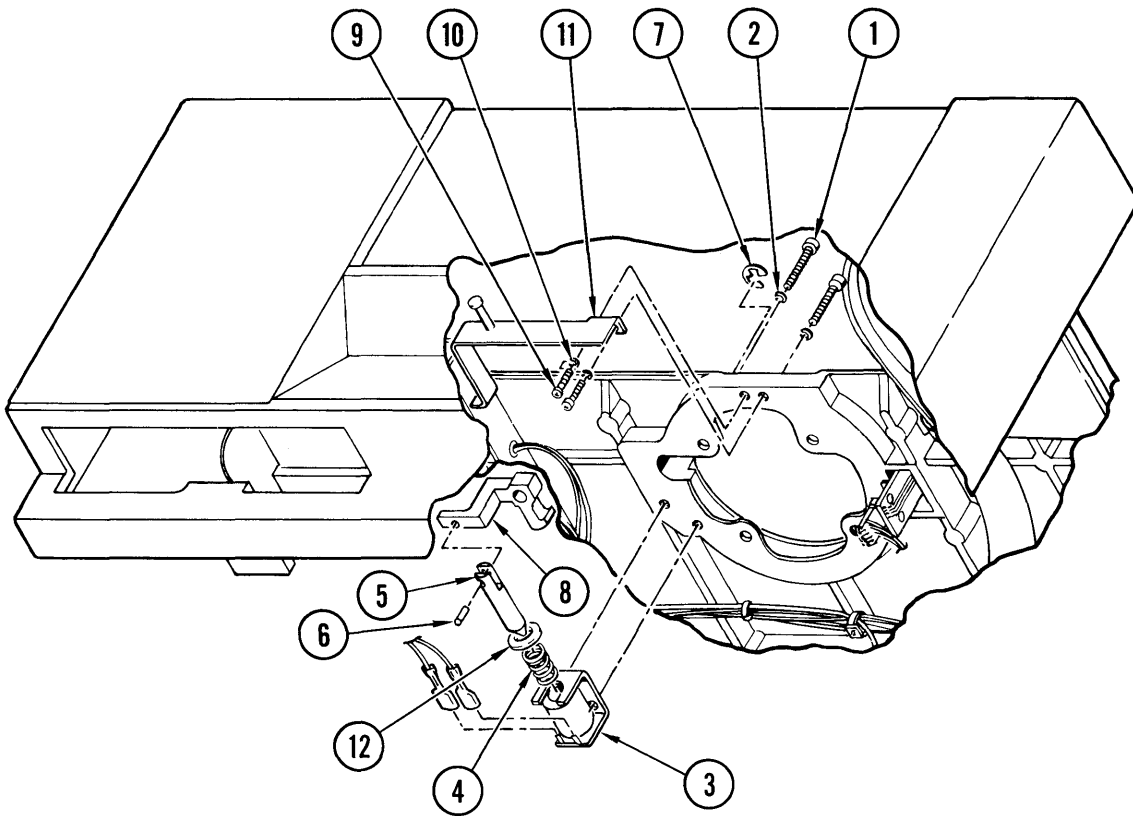

Figure 4-29. Hub Lock Assembly
4-45. Disassembly, Removal and Replacement (Figure 4-29). To disassemble hub lock assembly and remove parts from top plate and supply motor, proceed as follows:
- c. Remove wire terminals from solenoid (3, Figure 4-29) and identify for reassembly.
- d. Remove two screws (1), and lockwashers (2), and remove solenoid (3) from top plate and spring (4) and washer (16) from solenoid plunger (5).
- e. If plunger (5) or bellcrank (8) must be replaced, remove supply motor in accordance with instructions in paragraph 4-44. Remove retaining ring (7) and bellcrank (8) from motor, and press out pin (6), releasing plunger (5).
4-47. Manual Unlock Assembly (Hub Lock) (Figure 4-29). To replace the manual unlock assembly or one of its parts, proceed as follows:
- b. Remove manual unlock assembly (11) from top plate by removing two screws (9, Figure 4-29) and lockwashers (10).